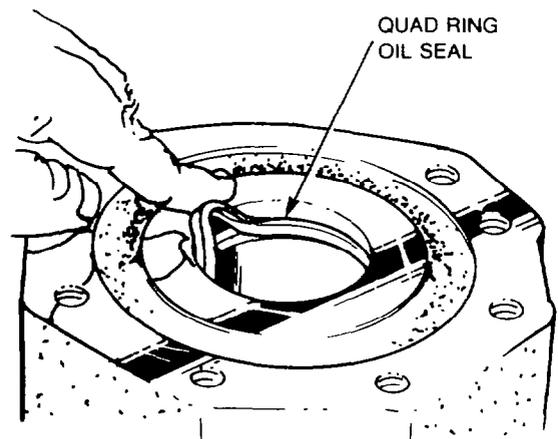

Figure 309 — Quad Ring Seal — Installation
- g. Install a new Quad ring seal in the groove in the housing. The Quad ring seal may appear to be too large, but it will fit into the groove (see Fig.309).